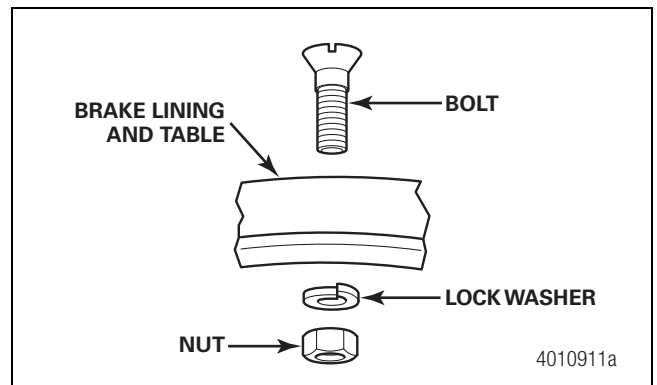

Figure 5.21
3. Install the 0.375-inch diameter brass bolts into the bolt holes. The bolts must be the correct body diameter, head size and shape, length and material. Figure 5.21.